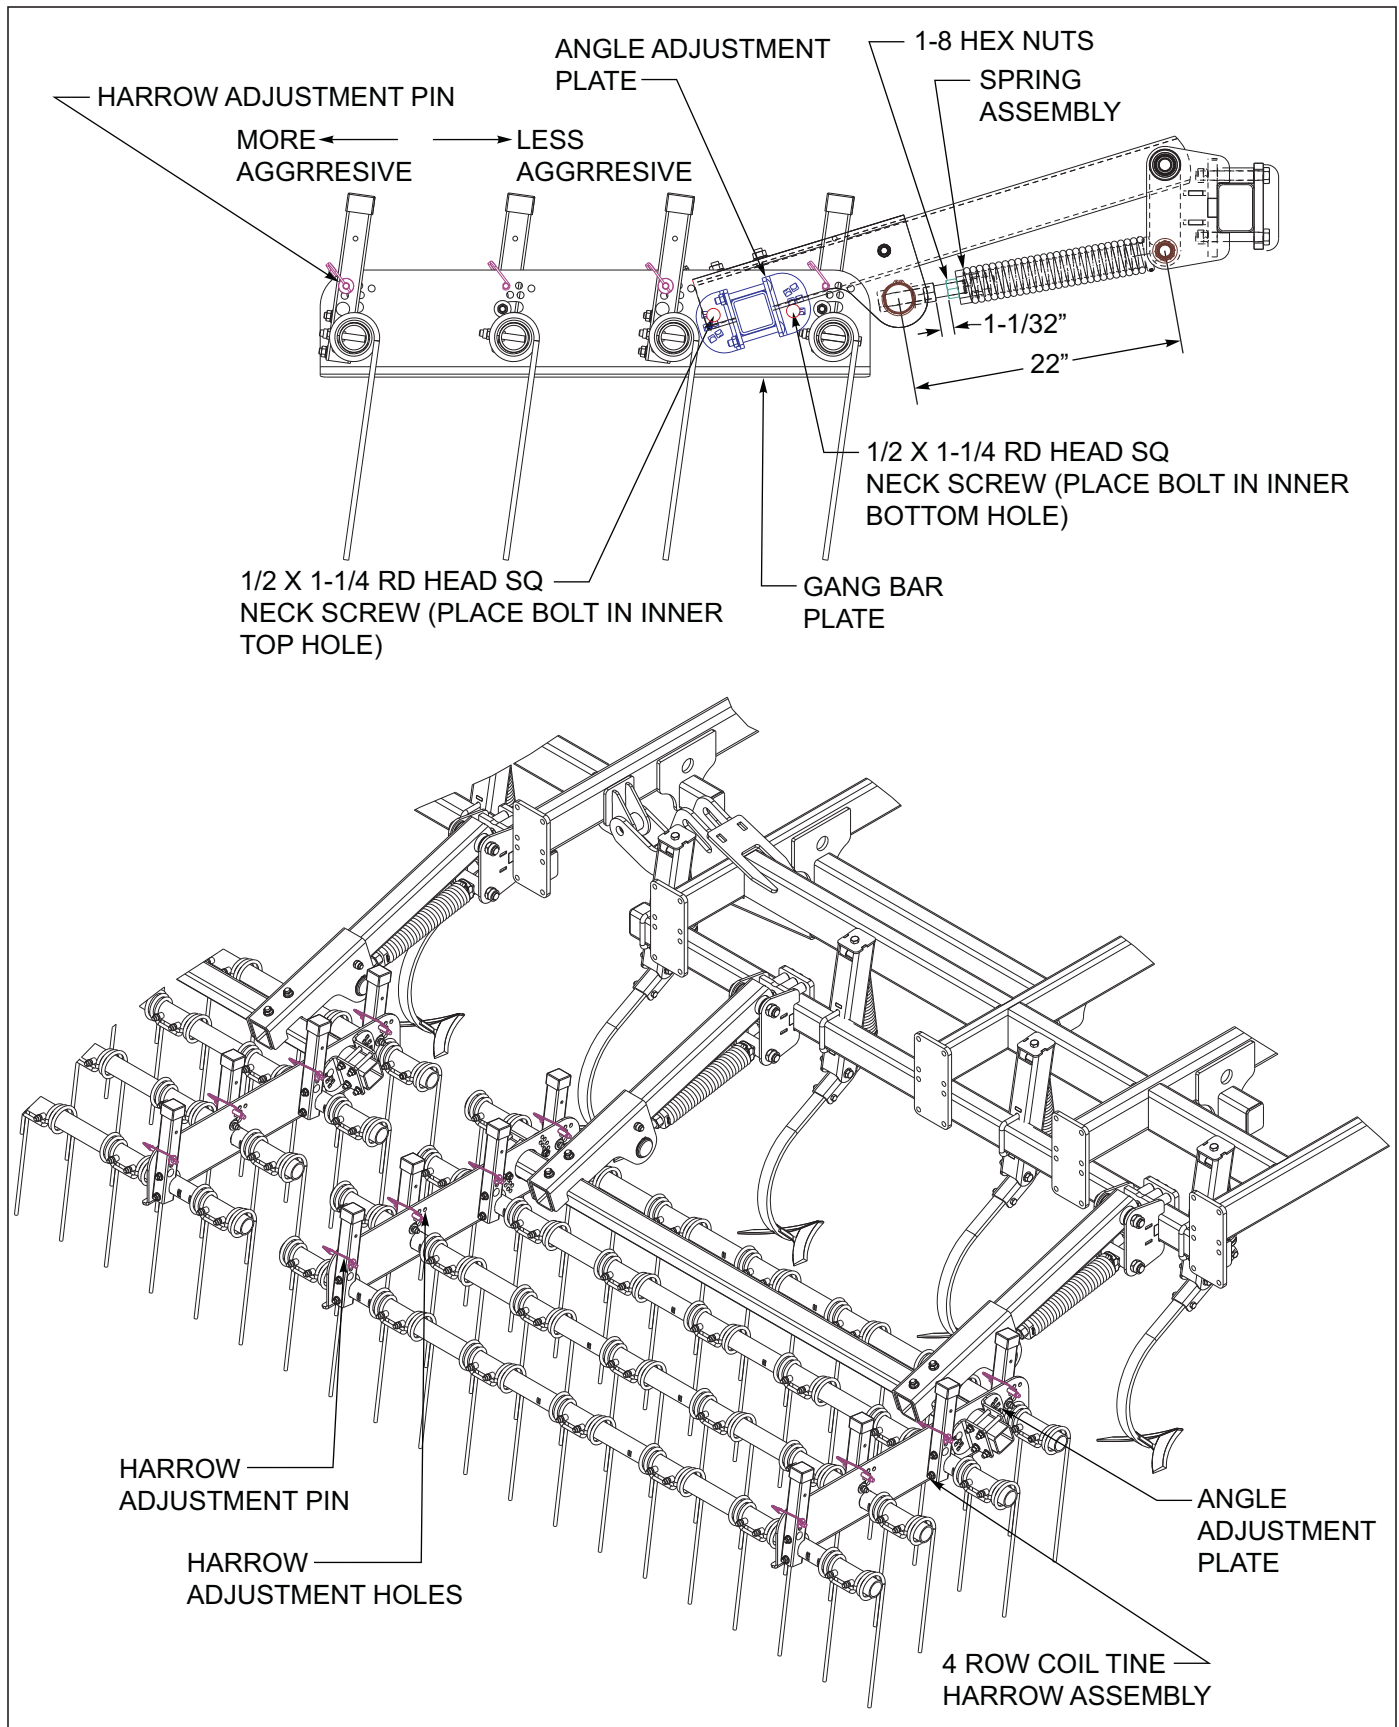

Figure 4-16: 4 Row Coil Tine Adjustment
2. In general tine harrows have better capabilities for handling more residue and wetter conditions. When operating the coil tine harrow, a more vertical tine tooth angle will make the harrow more aggressive. A lower/flatter tine angle will make the harrow less aggressive but will handle more residue and wetter conditions. To change the tine angle, raise the harrow off the ground. Remove the harrow pin from both angle adjustment tubes per tine gang bar tube See Figure 4-16. Rotate the angle adjustment tubes forward (less aggressive) or rearward (more aggressive) and reinstall both spring clip pins. Repeat the tine adjustment for each tine gangbar tube and harrow section.
5. The initial setting for the spring assembly should be 22". Each harrow section may also be adjusted for operating height. To change the harrow height See Figure 4-16, loosen both 1-8 hex nuts against the spring end. Raise or lower the harrow arm by turning the bolt head for the spring adjustment bolt. Then re-tighten the 1-8 hex nuts. When initially setting the harrow height, the bottom tips of the tine tooth (pulled back at the desired tooth angle) should be approximately level with the field cultivator sweeps.